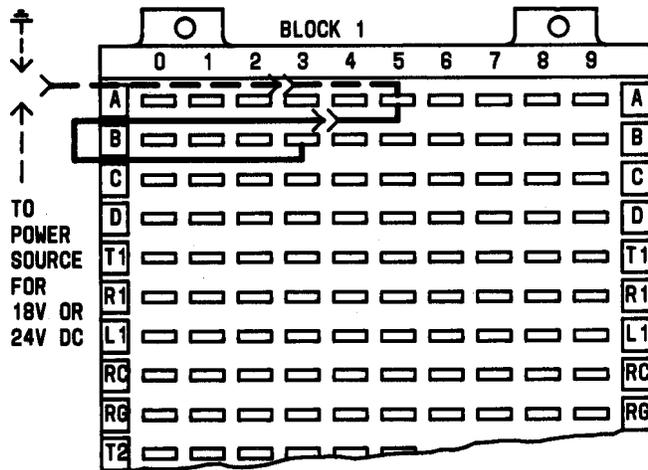

Fig. 15—G Option
**4.13** The G option (Fig. 15) provides uninterrupted 10-volt ac power (single-spurt) to operate station buzzers when the station codes are dialed. When the selector KTU is the 424-type, only a 1-path intercom can be served; with the 494-type selector, the intercom can have 1, 2, or 3 paths (Table B). Option G may also be 18-volt alternating current, 24-volt direct